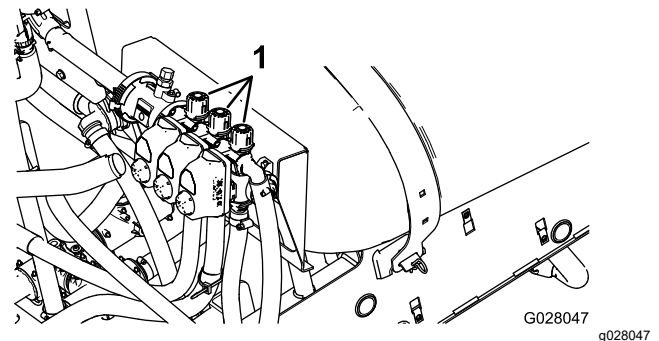

Figure 85
- Turn off the left-section switch and adjust the left section-bypass valve (Figure 85) until the pressure reading is at the previously adjusted level (typically 2.75 bar or 40 psi).
- Adjust the right section-bypass valve (Figure 85) until the pressure reading is at the previously adjusted level (typically 2.75 bar or 40 psi).
6. Adjust the center section-bypass valve (Figure 85) until the pressure reading is at the previously adjusted level (typically 2.75 bar or 40 psi).